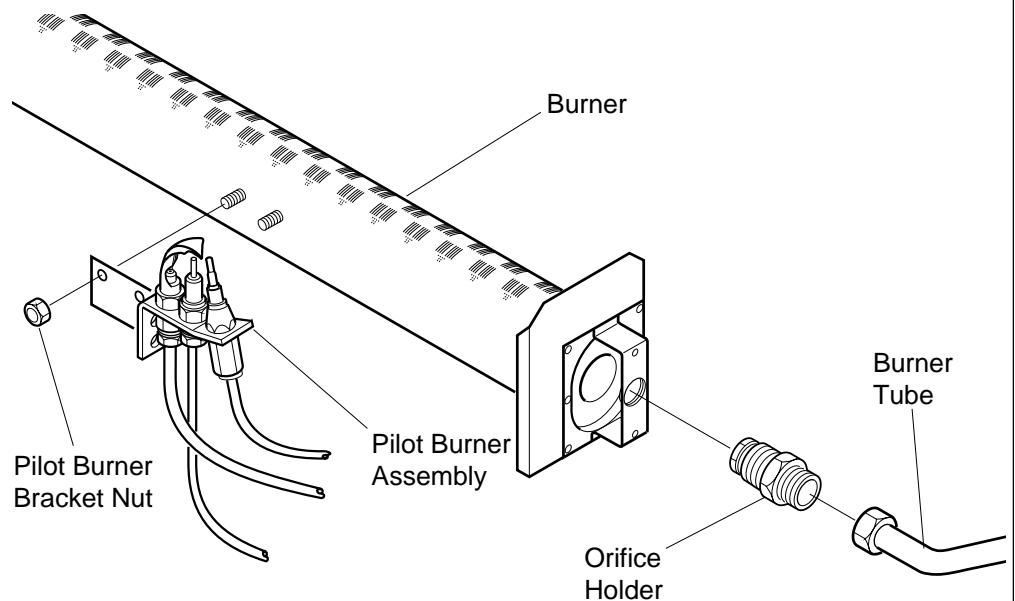

Figure 24 - Removing Burner Tube, Orifice Holder, and Pilot Burner Assembly (35,000 BTU/Hr Burner Shown)
3. Disconnect burner tube from orifice holder (see Figure 24).
4. Remove orifice holder from burner (see Figure 24).
5. Remove pilot burner bracket nuts and remove pilot assembly (see Figure 24).